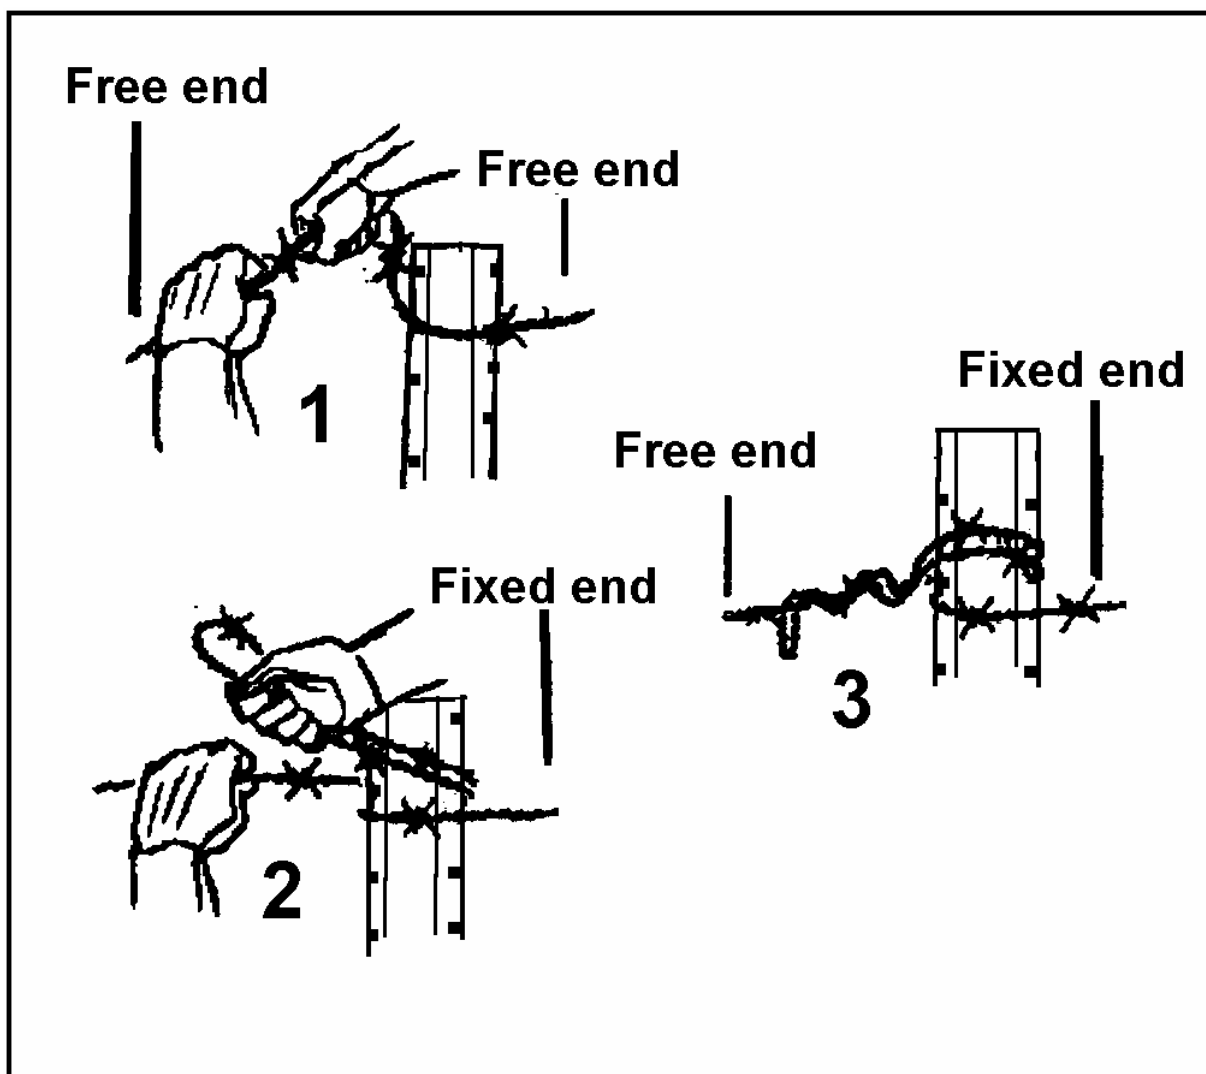

Figure 052-195-1020-1
- a. Make barbed-wire post ties (Figure 052-195-1020-1).